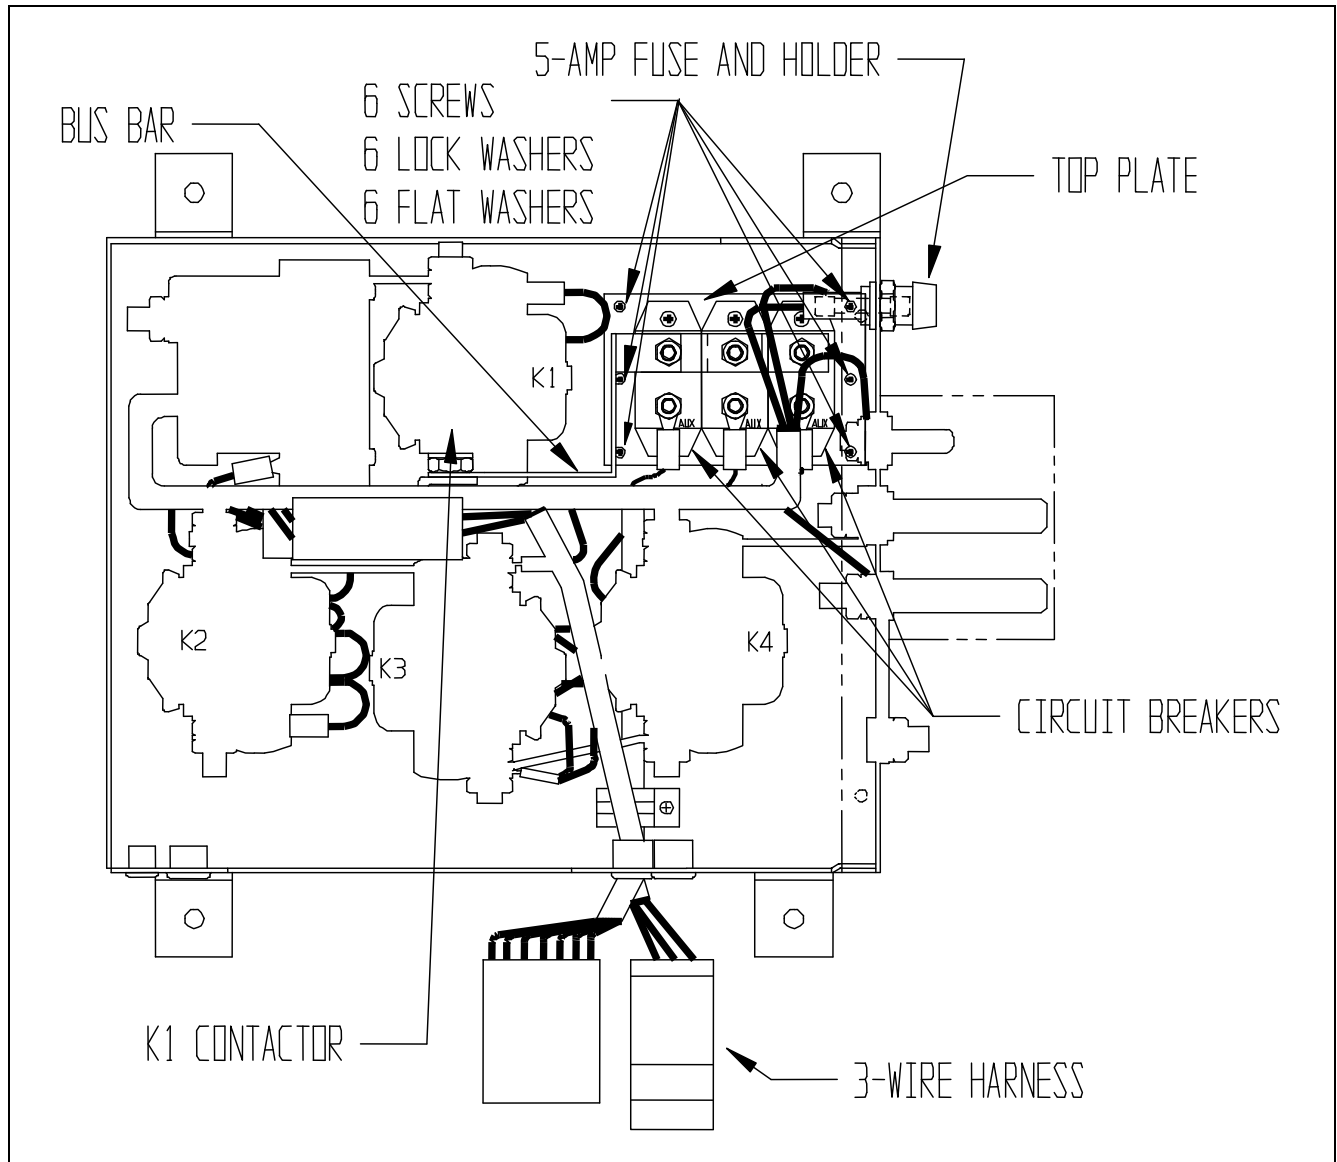
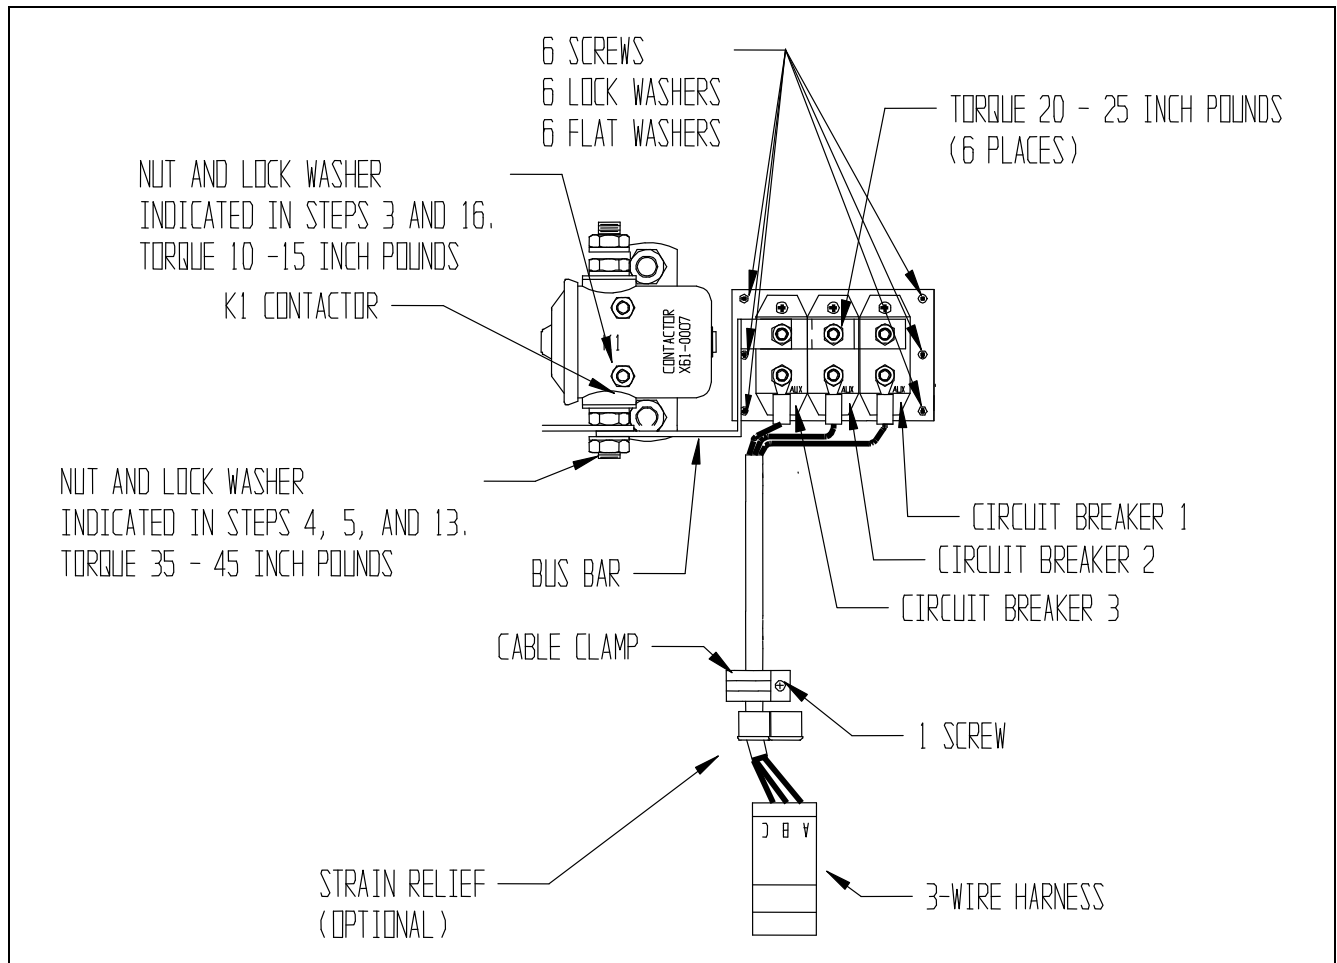

FIGURE 4: MCU with circuit breaker assembly kit installed.
FIGURE 5:
- 3) Remove nut and lock washer and wire terminal from positive coil terminal of K1. This is the terminal that has the two red wires attached to it. Retain hardware for reinstallation in step 13. (See Figure 5 for details) Also, disconnect the current sensor connector.
- 4) Remove nut and lock washer from fuse block side of K1 and retain for installation in step 13. (See Figure 5 for details)
- 13) Install the provided bus bar from the circuit breaker assembly to K1 contactor as shown in Figure 4. Torque the nut on K1 contactor 35 to 45 inch pounds. (See Figure 5 for details) Use hardware retained in step 4.
- 14) Install the 3-wire harness (provided) to the AUX side of the circuit breakers as shown in Figure 4. Torque AUX and BATT terminal nuts 20 to 25 inch pounds. (See Figure 5 for details) NOTE: If the cable clamp and screw are not installed as part of the MCU then install the originally supplied strain relief with new harness.